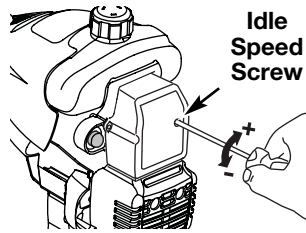

Fig. 23
The idle speed of the engine is adjustable through the air filter/muffler cover (Fig. 23).
2. Release the throttle trigger and let the engine idle. If the engine stops, insert a small phillips or flat blade screwdriver into the hole in the air filter/muffler cover (Fig. 23). Turn the idle speed screw in, **clockwise**, 1/8 of a turn at a time (as needed) until the engine idles smoothly.